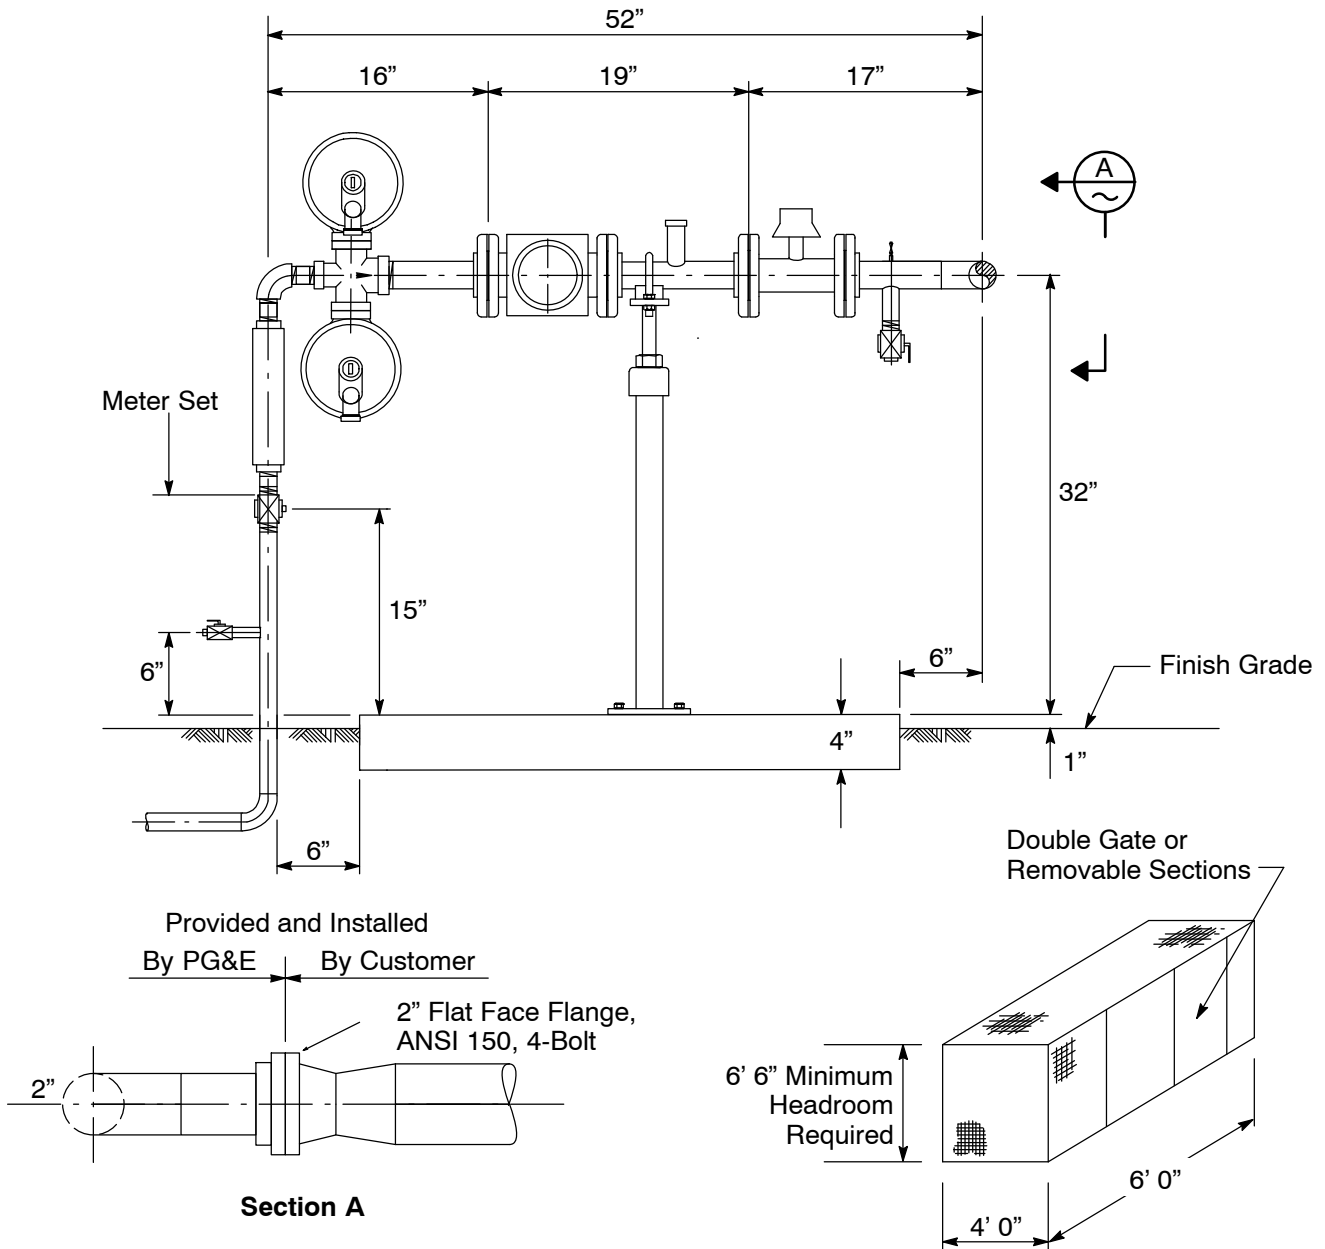

Figure 2-16
5. Figure 2-16 represents a rotary gas meter with 1,401 through 3,000 scfh at an approved delivery pressure.
Notes in reference to Figure 2-16.